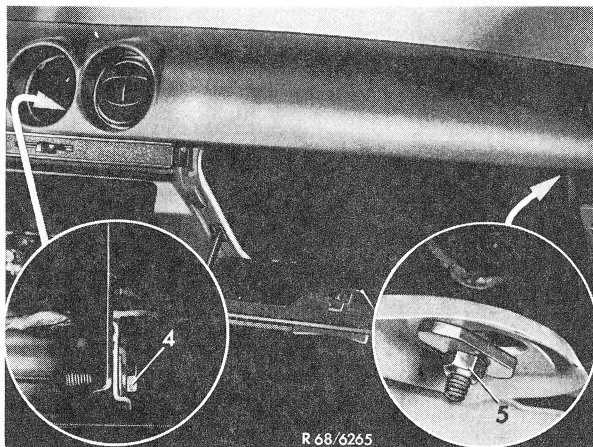

Fig. 3
- 16 Reach through hole for glovebox and unscrew bolt (4) except for a few final threads (Fig. 3).
28 Push instrument panel forward for accurate connection of defroster nozzles to heater box, while inserting the center screw (4, Fig. 3) into holder.